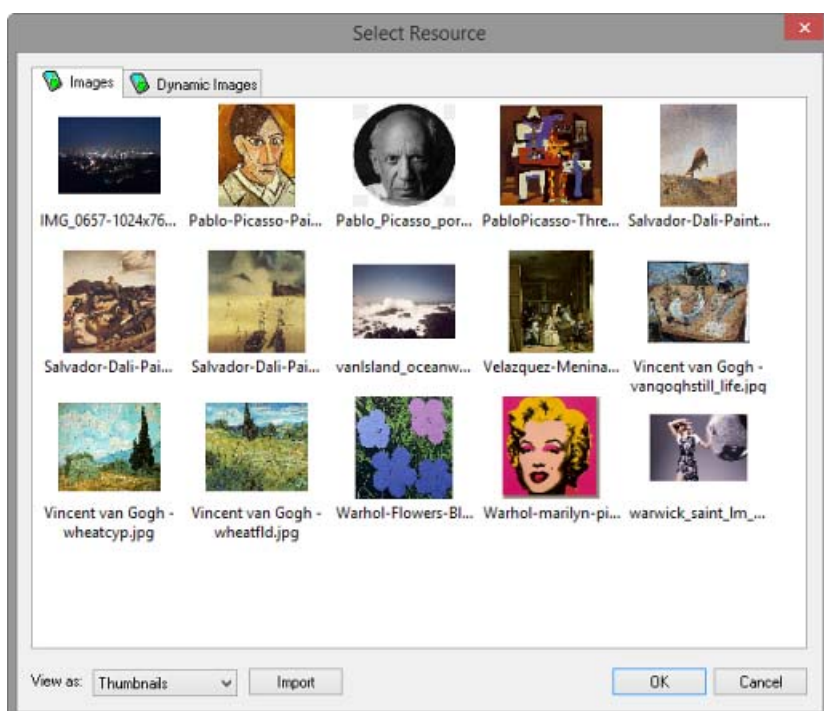

FIG. 22 Select Resource dialog - Images tab
4. Click **Add** to open the *Select Resource* dialog where you can select an image (or Dynamic Image) to apply to the selected page (FIG. 22).